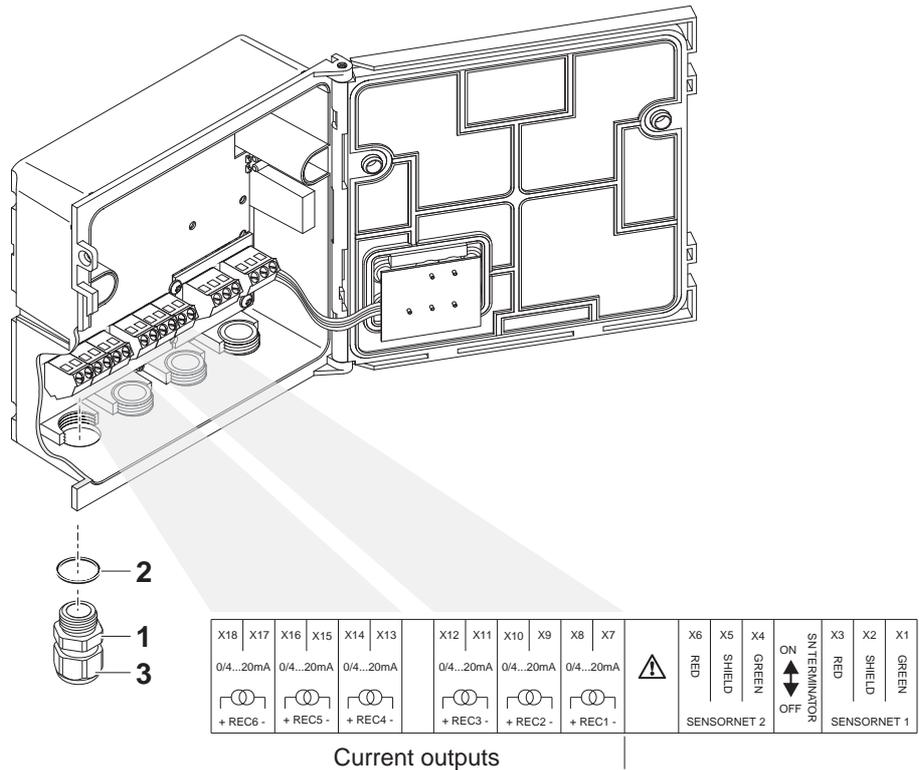

Fig. 3-1 Terminal strip with the current connections
| 3 | Screw the cable gland (pos. 1 in Fig. 3-1) with the sealing ring (pos. 2) into the module housing. |
| 4 | Loosen the coupling ring (pos. 3 in Fig. 3-1). |
| 7 | Tighten the coupling ring (pos. 3 in Fig. 3-1). |